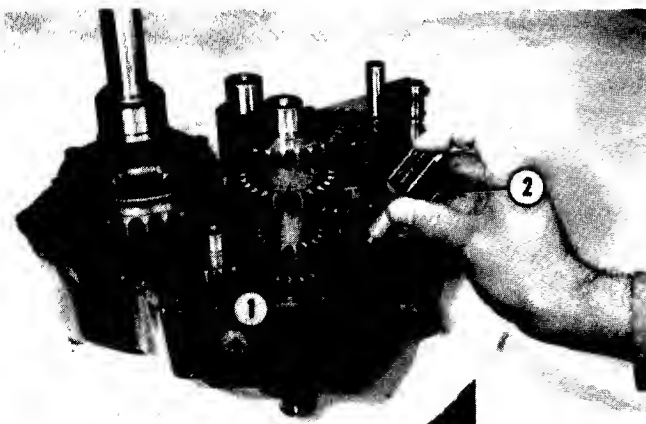

FIG. 4.11-REVERSE IDLER SHAFT & GEAR
12. Install 3 gear cluster and reverse idler shaft and gear, Fig. 4.11.